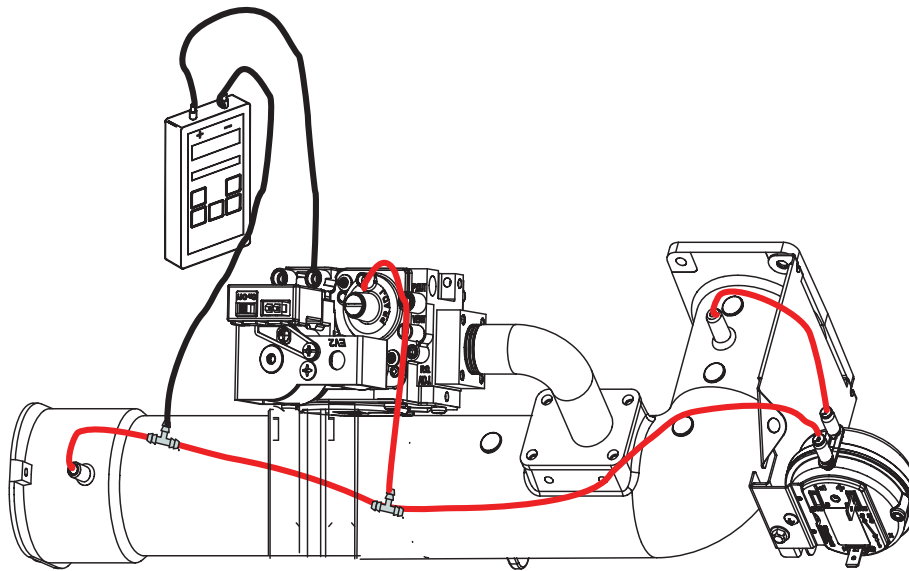

Figure 20. Gas Manifold Pressure Measurement
2. Check the gas manifold pressure on the SIT gas valve by opening the manifold pressure post. See **Figure 18**. Using a 4.5-5 x 0.8 mm screw driver, loosen the slot headed brass sealing screws. The sealant screws can not be removed. Install hoses and meter as shown in **Figure 20**.